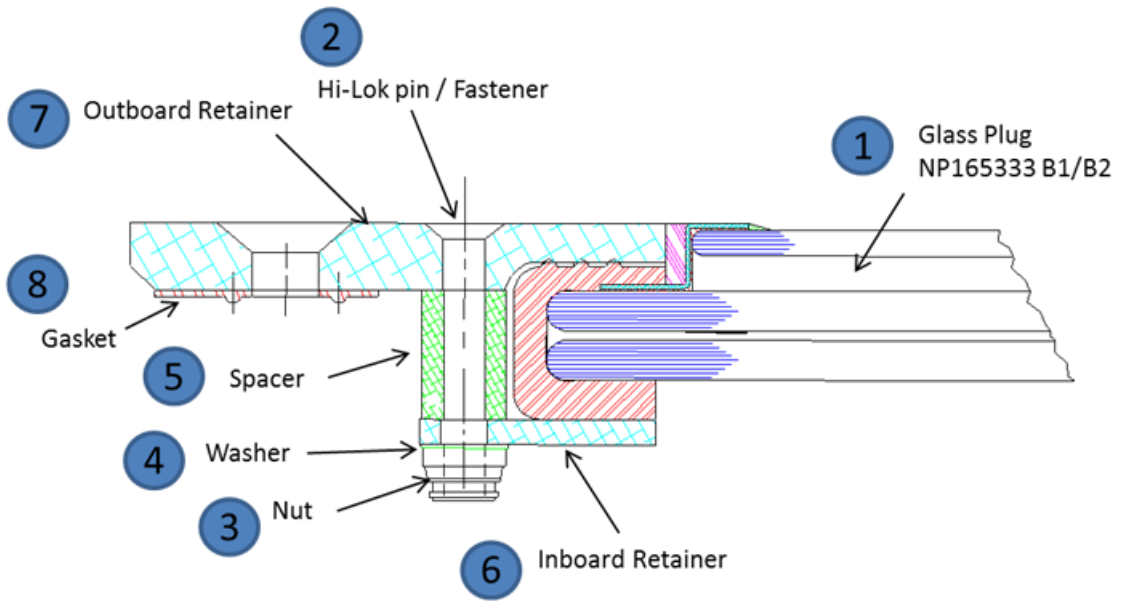

Figure 1 - Plug/Retainer Diagram
(2) Replacement Procedure (Reference Figure 1)